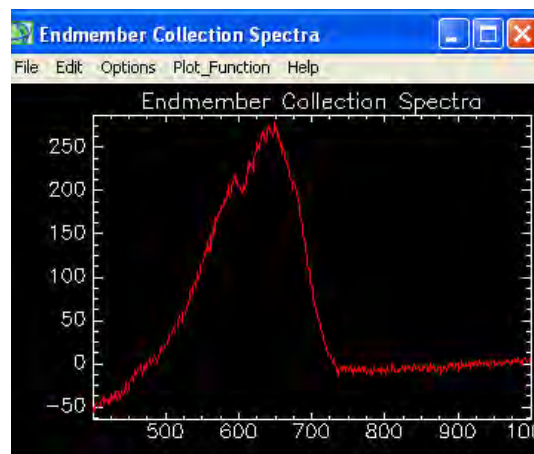

Figure 9. Plot containing the spectrum of the Endmember
- b. Then select Spectral Library Viewer. This now shows the plot for the endmember(s), in this case we only have one (see Figure 9)